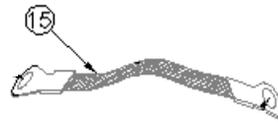

Figure No.3 Ground lead cable
15. Ground lead cable (figure No. 3) is optional.